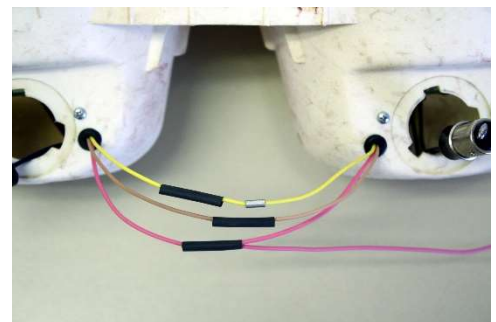

Figure 3
- 3.2. Referring to the wiring diagram below, on each housing, bring each matching color wire together for splicing with moderate slack. Cut off excess wire length and strip off 3/16" insulation off each wire. Slide a piece of heat shrink tubing over all wires on the outboard wires. Using the butt splices provided, insert the one color wire into each side and crimp the wires together. Then slide the heat shrink tubing over splice and shrink into place with a heat gun or other suitable heat source. (See Figure 3)
NOTE FOR PINK WIRE SPLICE: The pink wire splice will require a pre-cut 6" pink wire length joining with the inboard panel's pink wire into the splice. When completed, the pink wire splice should resemble what is shown in Figure 3.